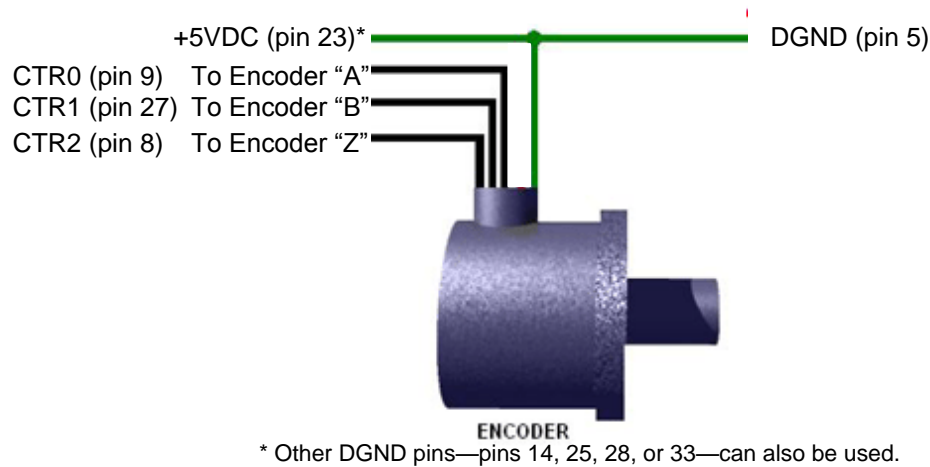

Figure 18. Connections from single encoder to DSUB37 pins on the USB-1616HS-BNC
**Wiring to one encoder:** Figure 18 shows the connections for one encoder to a USB-1616HS-BNC module.